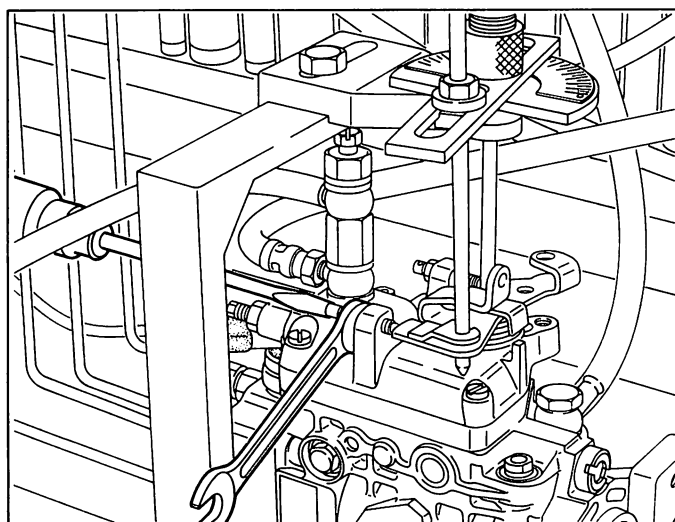

Fig. 117 Setting the idle adjusting screw
3. Operate the injection pump at the specified speed and turn the idle adjusting screw until the specified injection quantity is obtained. (Fig. 117)